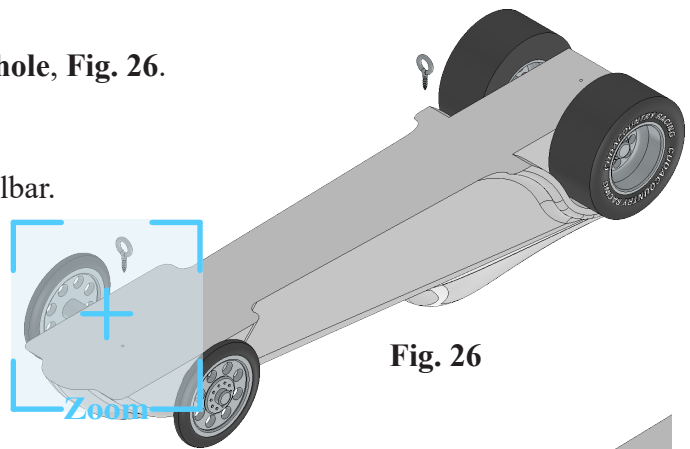

Fig. 26
Step 1. Zoom in around front Eye Screw and hole, Fig. 26.